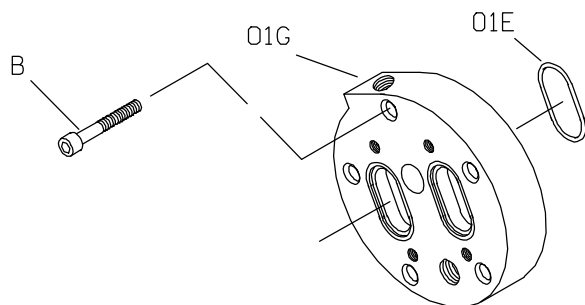

Figure E-2. Typical Head Jacket Assembly
If your pump is equipped with an optional head jacket, see Figure E-2 and remove the capscrews (B) securing the head jacket (01G) and O-rings (01E) to the head assembly (01A, Figure E-1).
If your pump is equipped with an optional head jacket, see Figure E-2 and install the O-rings (01E) in the grooves in the head (Figure 1, 01A).